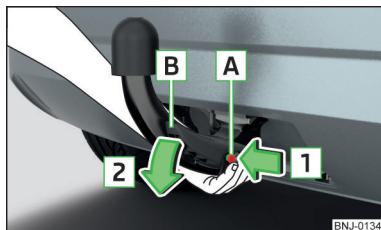

Fig. 252
- Grasp the tow bar from **below** » Fig. 252.